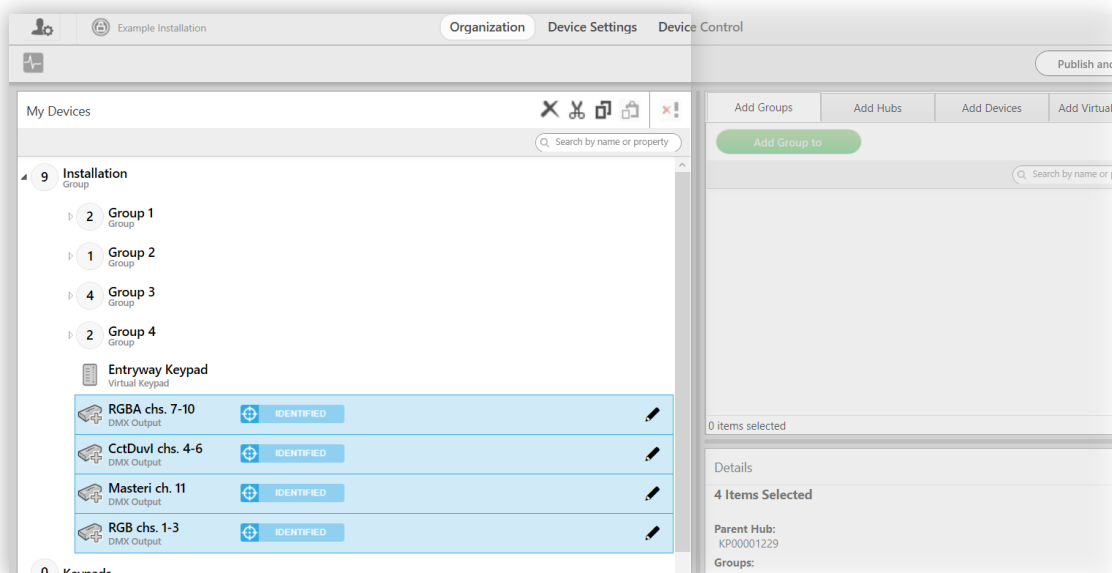

fig. 160
- i Open the installation in Design Studio. On the **Organization** tab, you should see your DMX outputs in the My Devices list, as shown in fig. 160.
You can think of each of these outputs as representing the DMX receivers listening to the channel range. For example, the "RGBA chs. 7-10" output in fig. 160 might represent several third-party LEDs with addresses of 7 that are listening for RGBA input. It might be more intuitive to imagine sorting those into a group rather than sorting the profile into a group.